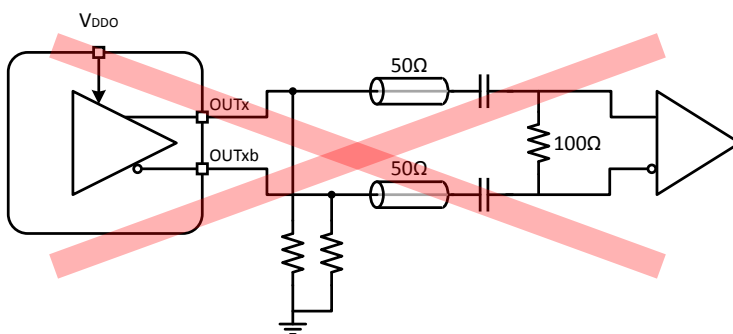

Figure 2.3. Shunt Resistors at Source Should NOT Be Used
- Shunt resistors to ground or series resistors should NOT be added, according to Figure 2.3 Shunt Resistors at Source Should NOT Be Used on page 4.